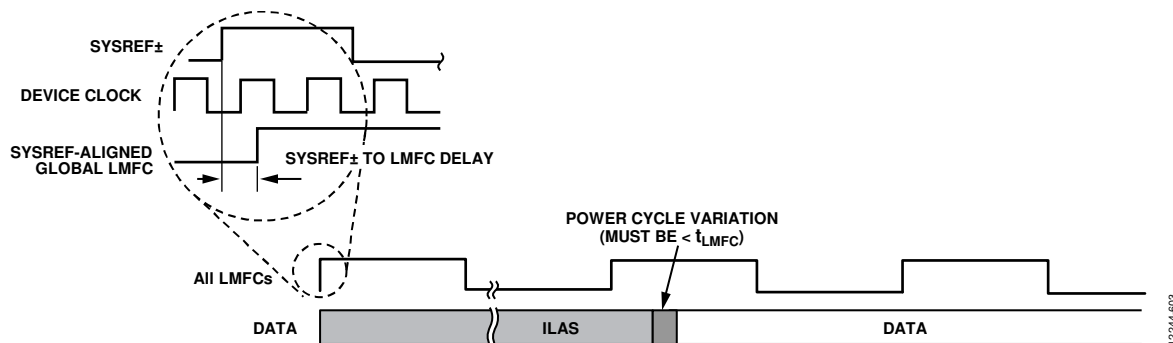

Figure 103. SYSREF± and LMFC
The JESD204B protocol organizes data samples into octets, frames, and multiframe as described in the Transport Layer Sample Test Mode section. The LMFC is synchronous with the starts of these multiframe. In Subclass 1 operation, the SYSREF± signal synchronizes the LMFCs for an individual link or across multiple links (within the AD9234, SYSREF± also synchronizes the internal sample dividers), as shown in Figure 103.
- The total latency variation across all lanes, links, and devices must be  $\leq 1$  LMFC period (see Figure 103). This includes both variable delays and the variation in fixed delays from lane to lane, link to link and device to device in the system.